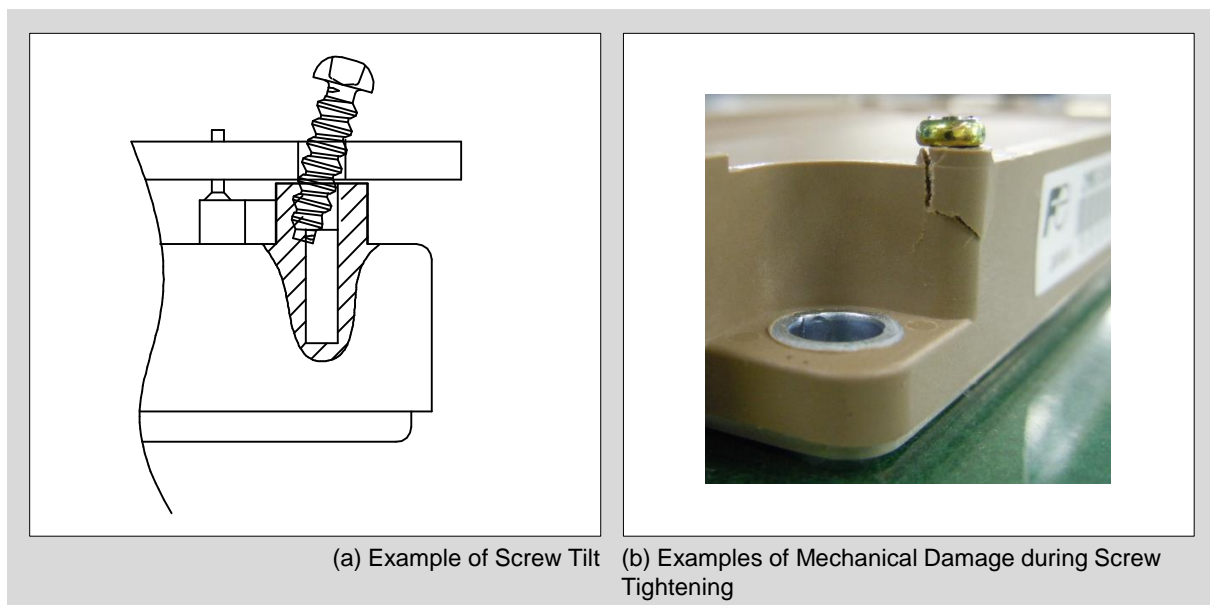

Fig. 6 Example of poor Screw Tightening
5. Manual screwing is recommended. When screwing with an electric driver or automatically, select the driver and optimize the parameters of the mounting process to avoid mechanical damage, and check that the module is not damaged. Be careful not to exceed 300 rpm when screwing with an electric driver or automatically. Fig. 6 shows an example of poor screwing.